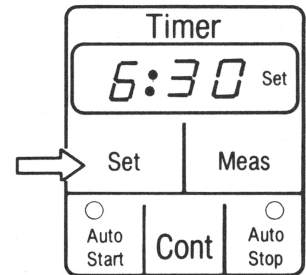

Figure 10. Timer Console.
5. Press **Set** time key to set-time for oven operation (Figure 10).